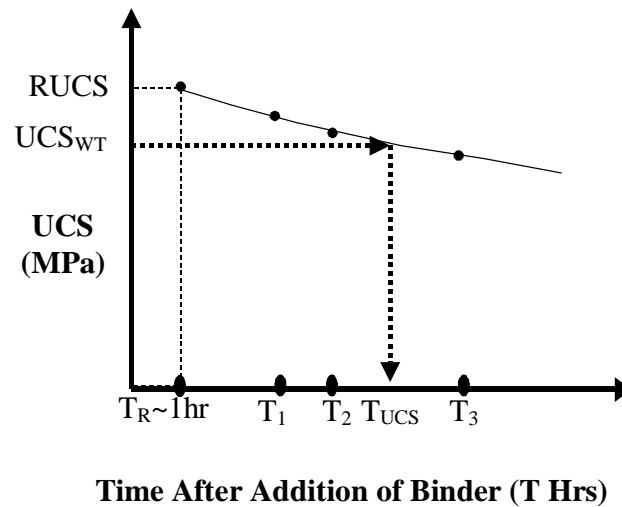

Figure 2 - Working Time for Unconfined Compressive Strength
- Plot the four results as the points $(T_R, RUCS)$, (T_1, UCS_1) , (T_2, UCS_2) and (T_3, UCS_3) as shown in Figure 2.